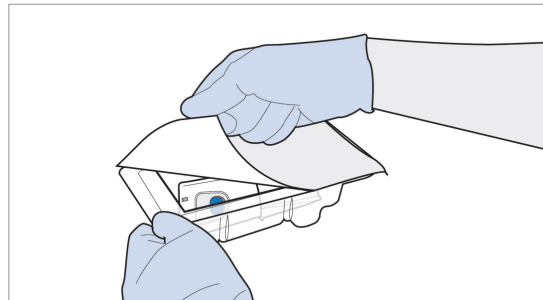

Figure 35 Remove Sterile Array from Packaging
14. Remove the sterile Array from its packaging and inspect the Array for damage (see Figure 35).